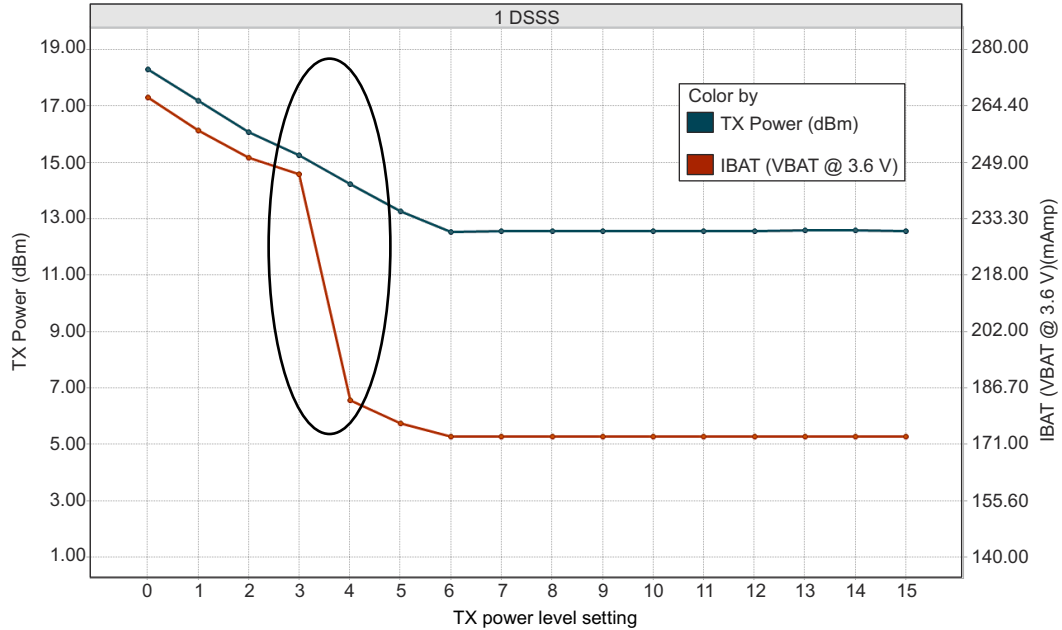
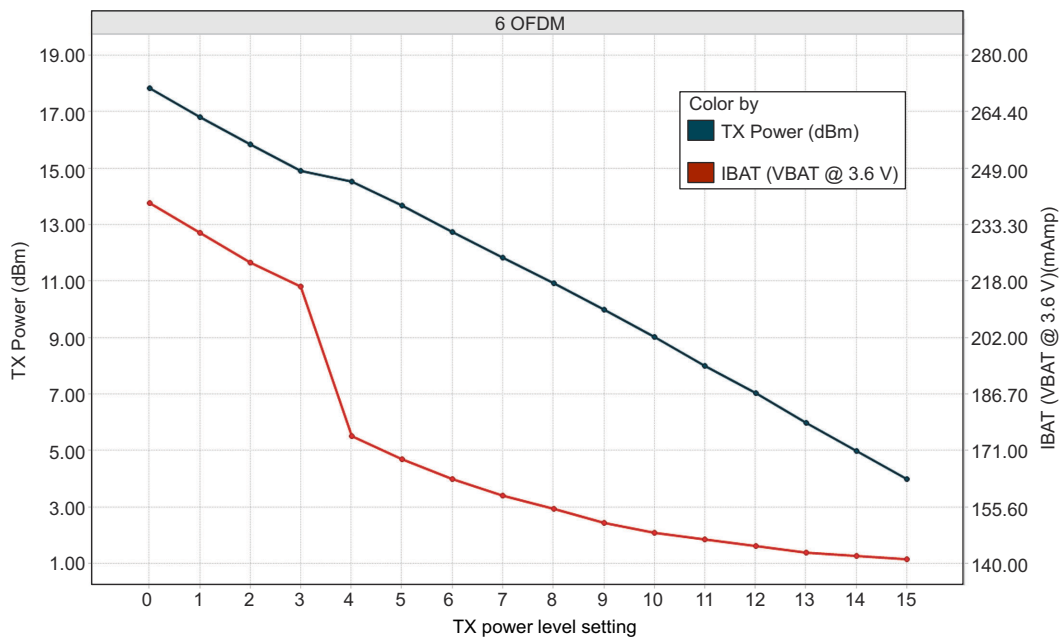
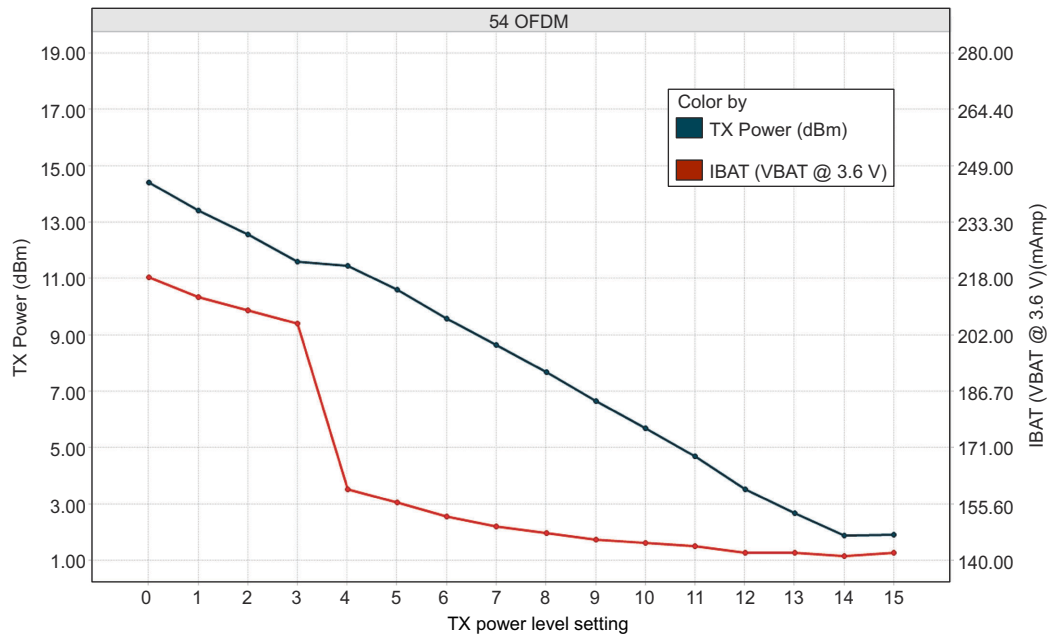

图 8-1. TX Power and IBAT vs TX Power Level Settings (1 DSSS)
图 8-2. TX Power and IBAT vs TX Power Level Settings (6 OFDM)
图 8-3. TX Power and IBAT vs TX Power Level Settings (54 OFDM)
- (1) TX power level = 0 implies maximum power (see 图 8-1, 图 8-2, and 图 8-3). TX power level = 4 implies output power backed off approximately 4 dB.
- (2) The CC3235x system is a constant power-source system. The active current numbers scale based on the V_{BAT} voltage supplied.
- (3) Typical numbers assume a VSWR of 1.5:1.
- (4) DTIM = 1
- (5) LPDS current does not include the external serial flash. The LPDS number of reported is with retention of 256KB of MCU SRAM. The CC3235x device can be configured to retain 0KB, 64KB, 128KB, 192KB, or 256KB of SRAM in LPDS. Each 64-KB block of MCU retained SRAM increases LPDS current by 4 µA.
- (6) The complete calibration can take up to 17 mJ of energy from the battery over a period of 24 ms. Calibration is performed sparingly, typically when coming out of HIBERNATE and only if temperature has changed by more than 20°C. The calibration event can be controlled by a configuration file in the serial flash.
图 8-1, 图 8-2, and 图 8-3 show TX power and IBAT versus TX power level settings for the CC3235S device at modulations of 1 DSSS, 6 OFDM, and 54 OFDM, respectively. For the CC3235SF device, the IBAT current has
In 图 8-1, the area enclosed in the circle represents a significant reduction in current during transition from TX power level 3 to level 4. In the case of lower range requirements (14-dBm output power), TI recommends using TX power level 4 to reduce the current.